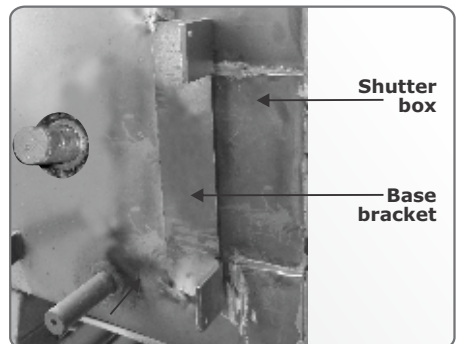

FIGURE 22.
6. Weld the brace bracket onto the side of the shutter box as shown in Figure 22
9. Always ensure that the hand chain hangs vertically. If the operator cannot be mounted in a way that facilitates this, the chain housing can be swivelled by loosening the three M8 bolts as shown in Figure 22.